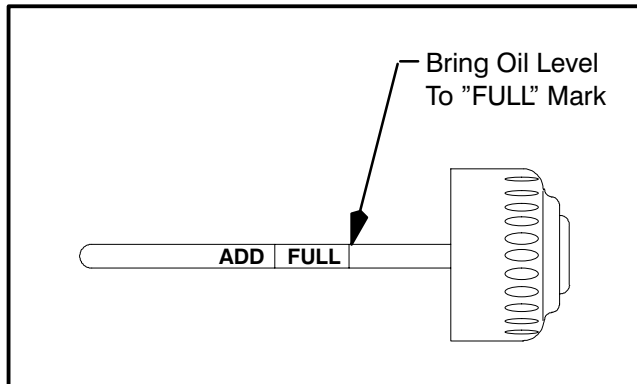

Figure 2-27
4. Remove it again and read the oil level on the dipstick. The oil level should be to the "FULL" mark on the dipstick. Refer to Figure 2-27.